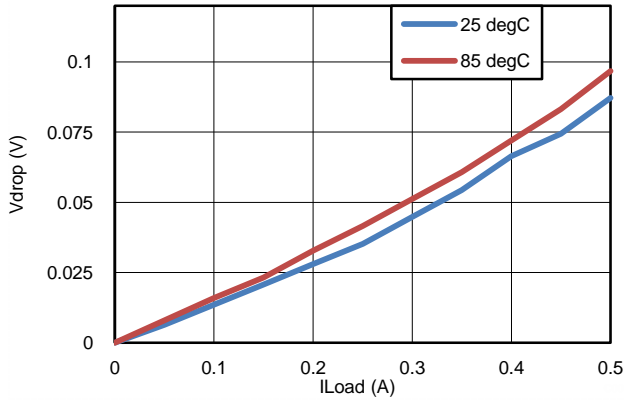
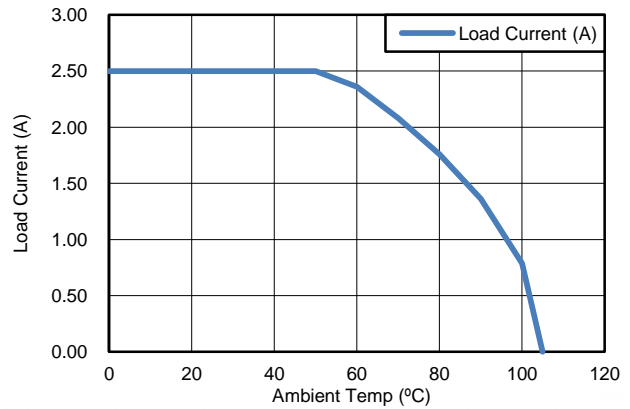

Figure 10. Vdrop vs IL; VGSQ1=-1.2V
**Figure 16. Vdrop vs ILoad; VGSQ1 = -7V**
Where, IDQ1 and IDQ2 are the DC current flowing through the transistors Q1 and Q2 respectively. Refer to the ELECTRICAL CHARACTERISTICS table and/or Figure 10 through Figure 16 to estimate RQ1(ON) and RQ2(ON) for various values of VGSQ1 and VGSQ2 respectively.